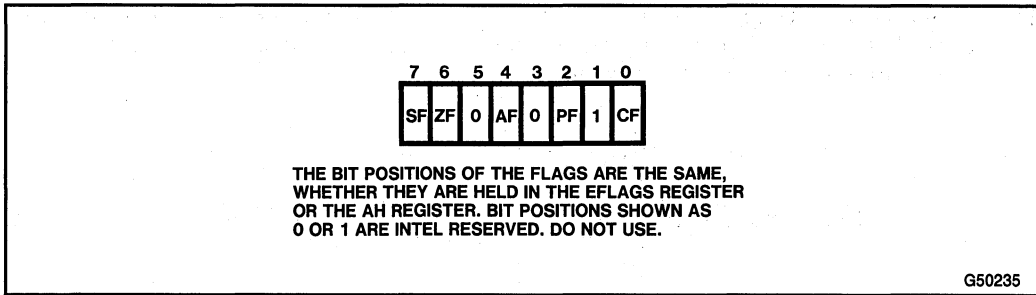

Figure 3-21. Low Byte of EFLAGS Register
**LAHF (Load AH from Flags)** copies the SF, ZF, AF, PF, and CF flags to the AH register bits 7, 6, 4, 2, and 0, respectively (see Figure 3-21). The contents of the remaining bits 5, 3, and 1 are left undefined. The contents of the EFLAGS register remain unchanged.
**SAHF (Store AH into Flags)** copies bits 7, 6, 4, 2, and 0 from the AH register into the SF, ZF, AF, PF, and CF flags, respectively (see Figure 3-21).